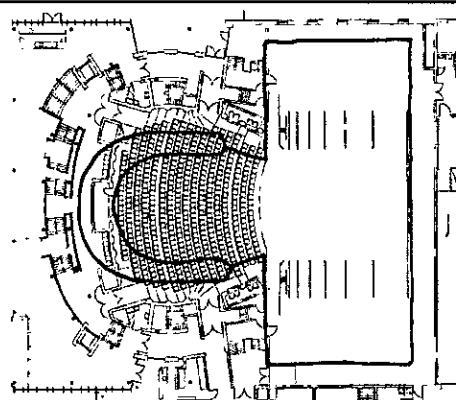

Figure 13
The final step in development was made in *De Spiegel* in Zwolle (2006). Based on the experience with good and intimate theatres for natural speech the hall was designed to be as compact as possible. Unlike the previous halls, the starting point for the design was not the concert hall, but a small theatre with 850 seats of approximately 3500m³. It has two horseshoe shaped balconies, an average room depth of 18m and a maximum room width of 20m. Although the seating capacity (850) is greater than the theatre in The Hague (675), *De Spiegel* can still be considered an intimate theatre, as is illustrated in Figures 13 and 14.